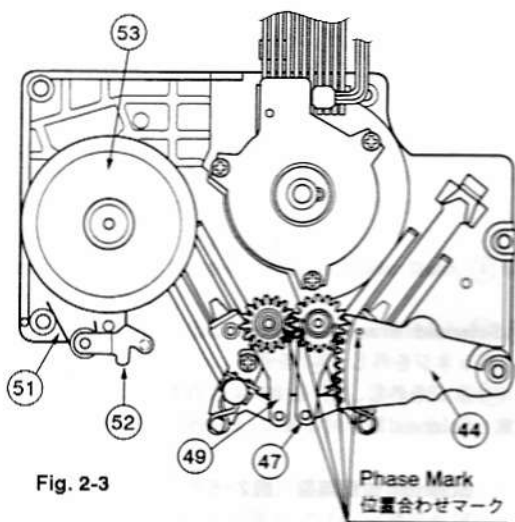

Fig. 2-3
- See that the phases of ④④, ④⑦, and ④⑨ are matched with each other, as shown in Fig. 2-3.
- ④④, ④⑦, ④⑨ の位相は Fig. 2-3 を参照。